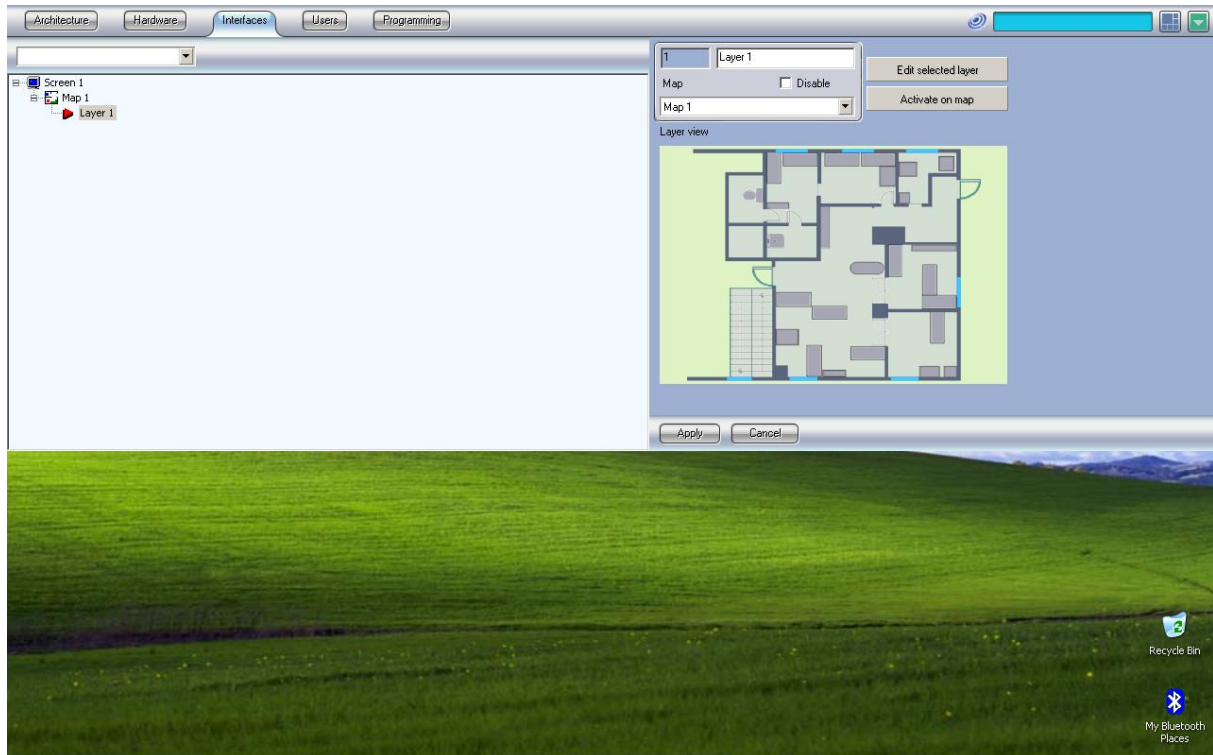

fig.20
- 3) Each map consists of layers. Each layer includes a draft of the building. On the layer you can place devices, zones and links with the other layers on the map. All the settings of the layer can be edited from button “Edit selected layer” (fig.20).